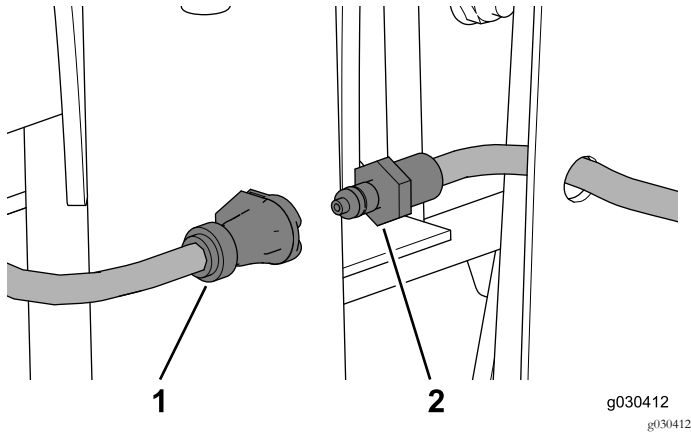

Figure 62
1. Disconnect the washer hose (Figure 62).